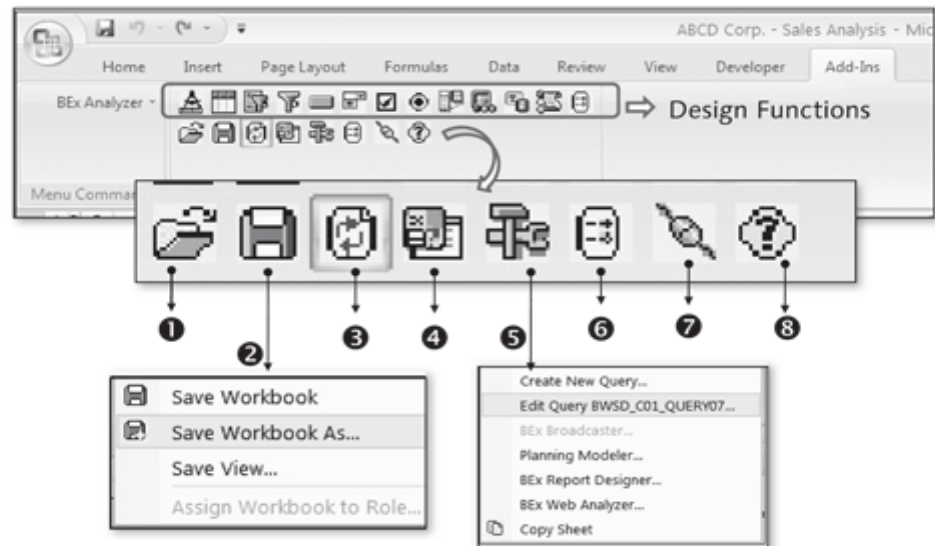
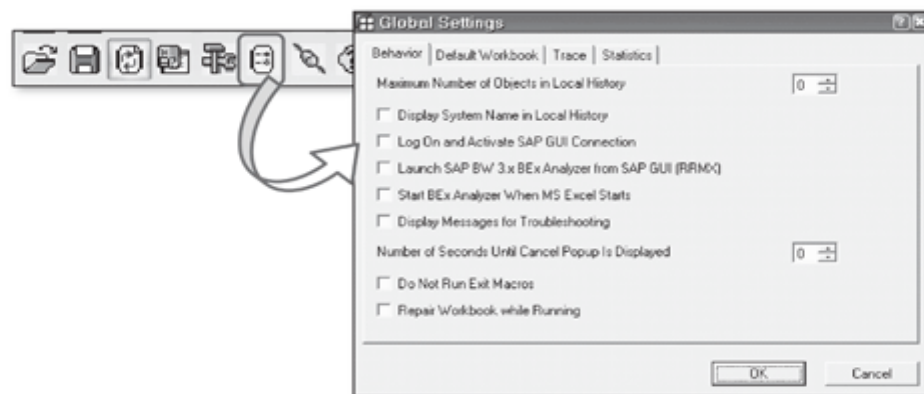

Figure 10.10 BEx analyzer Analysis Toolbar
Figure 10.11 Global Settings for BEx analyzer
The BEx analyzer has two different sets of functions available in the form of two different toolbars: the Design toolbar and the Analysis toolbar. As shown in the boxed area of Figure 10.10, the top part of the BEx analyzer functions are design functions and constitute the Design toolbar. The lower part of the BEx analyzer functions constitute the Analysis toolbar (shown enlarged in Figure 10.10). The significance of each of these buttons on the Analysis toolbar is discussed next.
- ▶ **Open:** This button is used to open an existing query or workbook in BEx analyzer (❶ of Figure 10.10).
- ▶ **Save:** This button is used to save the workbook (❷) with the same name (Save Workbook) or as a different workbook (Save Workbook As). The Save View option stores the navigational state and the filter values for the selected query element.
- ▶ **Refresh:** This button refreshes the query results in the workbook (❸). When the workbook is refreshed using this button, you can use the same button to pause the automatic refresh of the data in the workbook.
- ▶ **Change Variable Values:** This button is used if you want to call the variable selection screen for the selected query in the workbook (❹).
- ▶ **Tools:** Use this button to open different BEx tools and applications (❺).
- ▶ **Global Settings:** Use this button (❻) to maintain different settings for BEx analyzer. There are four tabs available where you can maintain settings: Behavior, Default Workbook, Trace, and Statistics (Figure 10.11).